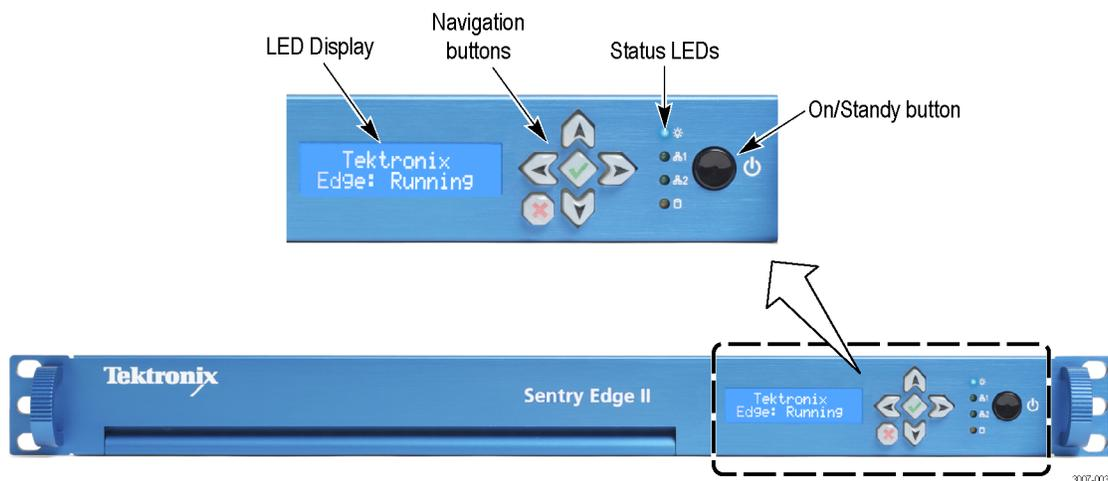

Figure 4: Front panel controls
2. Push the On/Standby button on the instrument front-panel and the instrument will turn on. (See Figure 4 on page 15.)